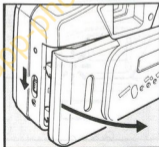

Fig.5 Abb.5 1.5
1. Push the Back Cover Lock downward to open. (Fig. 5)